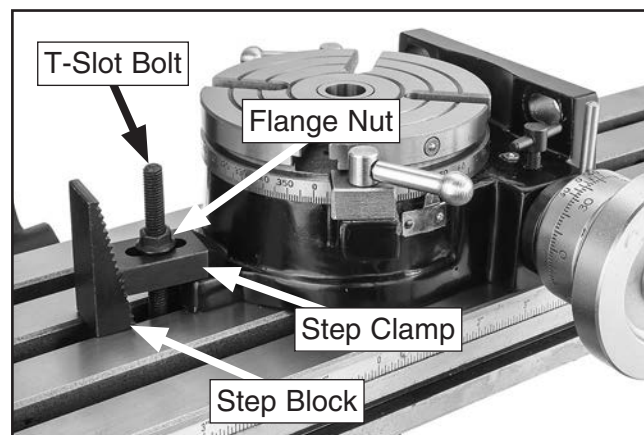

Figure 10. Rotary table mounted using T-slot bolt assemblies, step blocks, and step clamps.
2. Position ½" T-bolt slots on rotary table over T-slots in milling table (see **Figure 10**).
3. Insert (1) T-slot nut into each milling table T-slot, then install step clamp onto each T-slot bolt (see **Figure 10**).
4. Install step blocks on milling table T-slots (see **Figure 10**).
5. Secure rotary table using flange nuts. Ensure rotary table is rigid to increase accuracy, efficiency, and safety (see **Figure 10**).
The T-slots for the vertical setup of the rotary table are 3⁵/₈" between centers. You will need to have the same distance between centers on your milling table to use T-bolts. If your milling table has different T-slot centers, you will need to use step blocks and clamps to secure the rotary table. See **Figure 10** for an example of this type of setup.